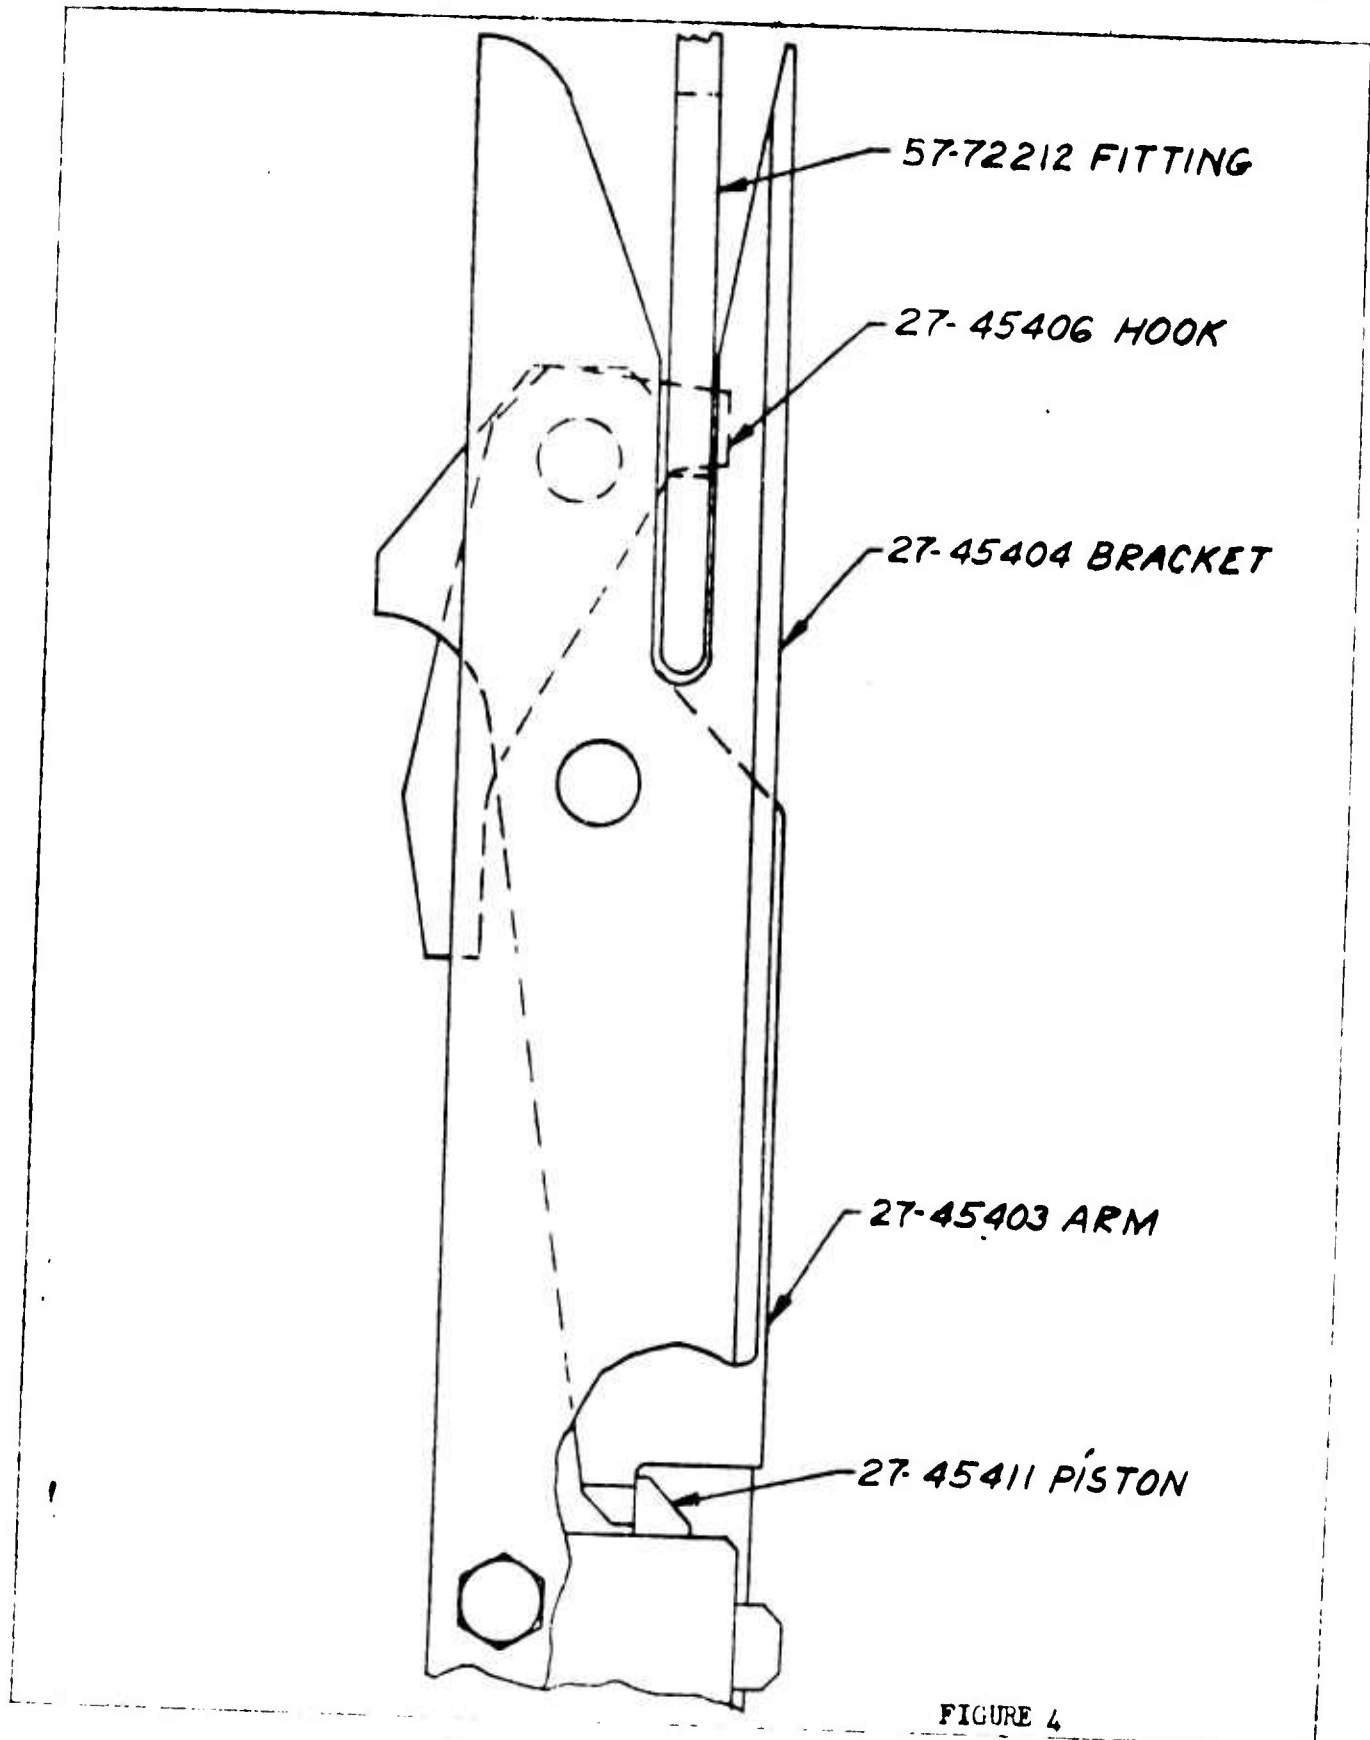

FIGURE 4
- f. Close the 27-45403 arm such that the 27-45406 hook engages the slot in the 57-72212 fitting, and the 27-45411 piston rides over the lip of the 27-45403 arm locking the arm in the closed position (See Fig. 4).